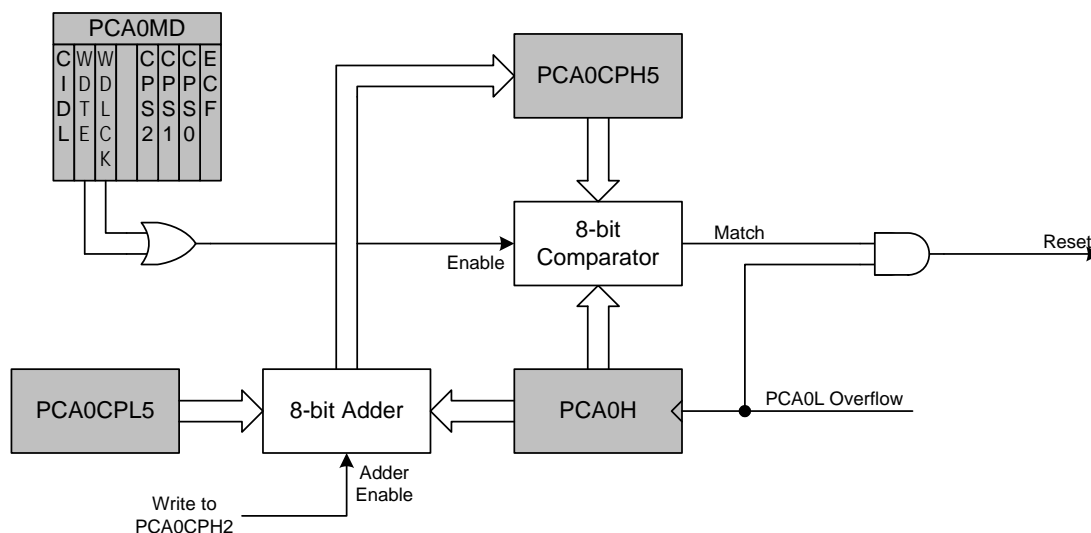

Figure 28.11. PCA0 Module 5 with Watchdog Timer Enabled
While the WDT is enabled, writes to the CR bit will not change the PCA0 counter state; the counter will run until the WDT is disabled. The PCA0 counter run control bit (CR) will read zero if the WDT is enabled but user software has not enabled the PCA0 counter. If a match occurs between PCA0CPH5 and PCA0H while the WDT is enabled, a reset will be generated. To prevent a WDT reset, the WDT may be updated with a write of any value to PCA0CPH5. Upon a PCA0CPH5 write, PCA0H plus the offset held in PCA0CPL5 is loaded into PCA0CPH5 (See Figure 28.11).